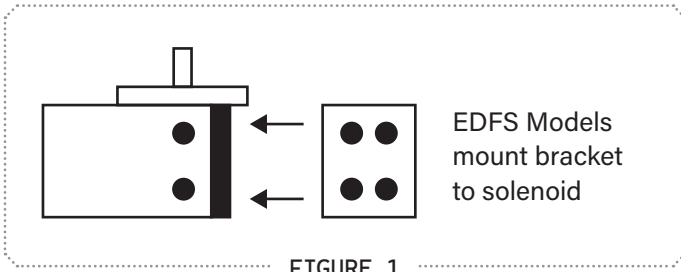

FIGURE 1
**NOTE: On Electronic Drain Feedback switch models, install the adapter bracket [11] to the solenoid using the 2 screws provided [12] in the kit. Attach the EDFS to the adapter bracket [11] with the original screw. See Figure 1**